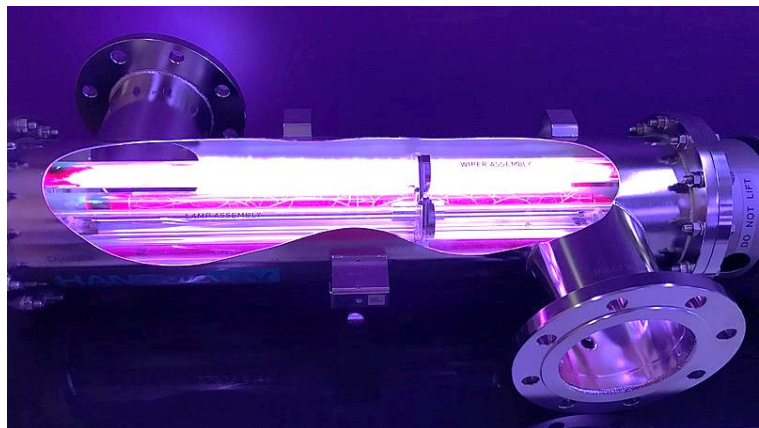

Figure 19: UV lamps in a pipe. Injecting H_2O_2 upstream allows for PFAS destruction.
- Ion Exchange (IX)
- Nano-Filtration (NF) or Reverse Osmosis (RO)
- Ultraviolet radiation (UV) with hydrogen peroxide (H_2O_2), see Figure 19